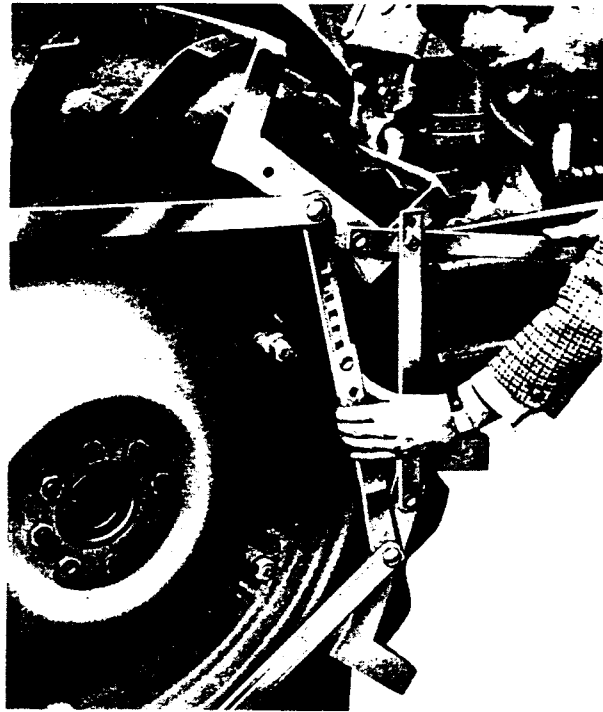

FIG. 14
3. Draw the end stirrups together with the hand tool, in turn, on both sides of each girdle. Engage pin on link attached to lower stirrup with a hole in link from upper stirrup, Fig. 14. Secure with bolt.